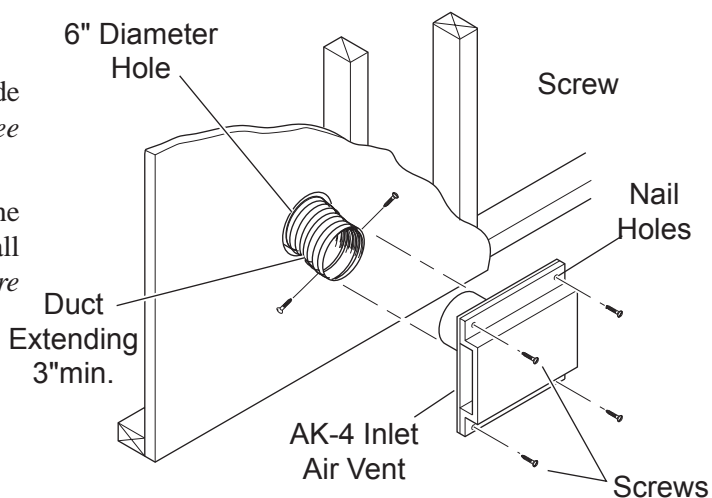

**Figure 21 - Attaching Outside Air Starting Collar and Insulation Ring to Left Side of Fireplace**
3. Place the starting collar (4") into the hole on the side of fireplace. Fasten it in place with the four sheet metal screws provided. *See Figures 21 and 22.*